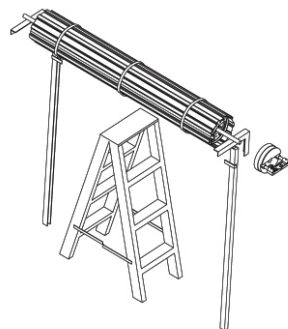
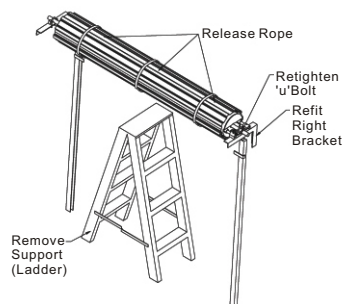

Fig3
Fig4
- Make sure the door supporting prop is secure. While the door is supported, remove the right-hand wall mount bracket. (Fig. 3)
- Remove the geared motor (1) and from the packaging material. Align the assembly with the three counter sunk holes in the spoke section. Affix with screws supplied 3 X (6x25mm counter sunk) using an appropriate flat bladed screwdriver. (Ensure the motor assembly is securely fixed to the drum wheel before proceeding.)
- Remove the motor shaft screw and slide on the main drive gear (4), then refit the shaft screw and tighten.
- Slide the slip ring assembly (13) over the door axle, locate into a position with the two slip ring wires are closest to the motor. Connect the two wires from the slip ring assembly to the motor leads. Observe the polarity of the four wires i.e. red to red, black to black.
- Slide the main Gear (12) over the door axle and engage teeth with the motor drive gear.
- Slide the main body (25) over door axle, space and make sure red pin handle(22) is in manual position. Locate the contact brushes (24) into inner and outer slip ring (13).
- The main body should now be sitting flush up against the ring gear. Attach split ring (9) to split ring extrusion and secure split Ring so tapping screw. (6 3/8)
- Replace right-hand side wall mount bracket. (Fig. 4)